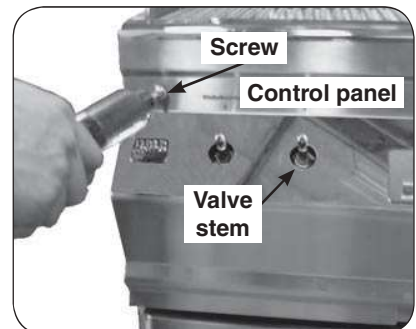

Fig. 2-3 Remove control panel
7. With the burner valves in the **OFF** position, pull the valve knobs from their stems. Use a Phillips screwdriver to remove the control panel fastener screws on either side of the grill control panel (see Fig. 2-3). Release the control panel by lifting it slightly and remove it from the grill. Make sure to retain the screws and finish washers for re-attaching the control panel.